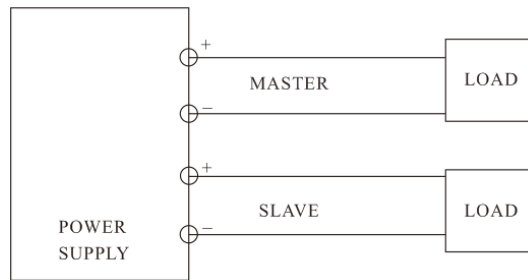

Fig.5-2 Independent Operation
- F. Fig.5-2 illustrates the connection procedure.